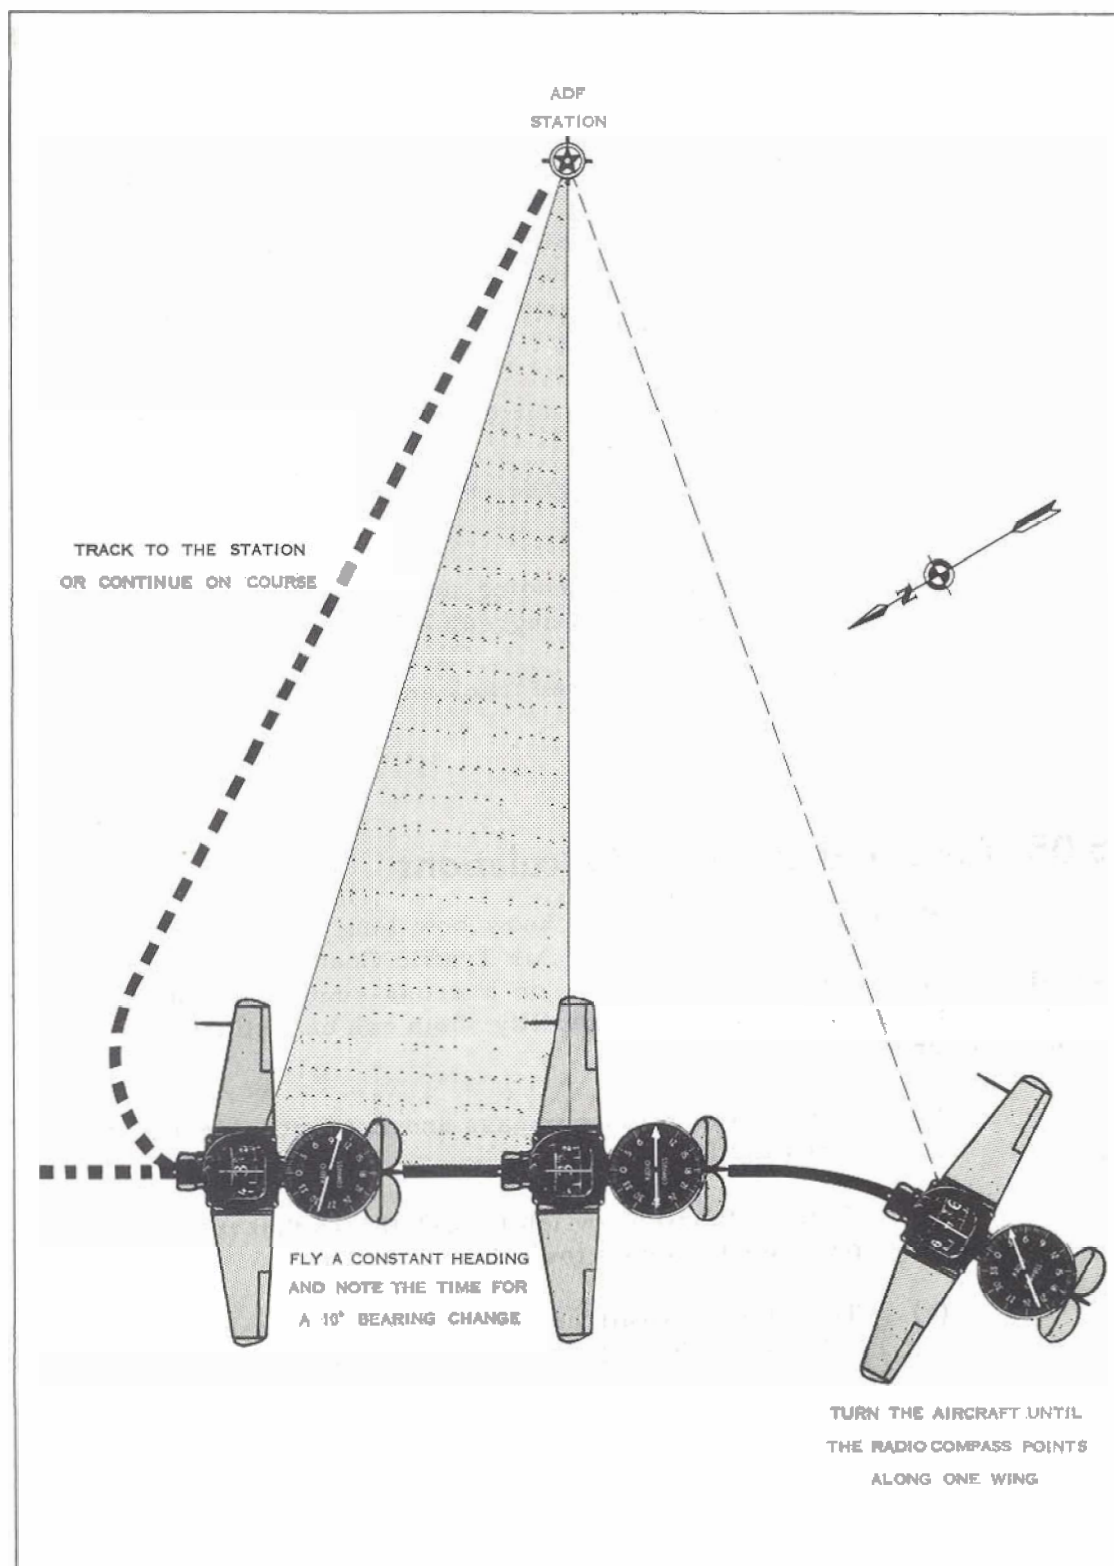

Figure 5: The Time and Distance Procedure
(1) Sometimes, you may wish to know how long a homing is going to take, so that you can give the tower or Air Traffic Control Centre (ATCC) an estimated time of arrival (ETA), or, on a cross-country flight, you may wish to check your distance from a facility; both can be estimated by using the following procedures.
- (c) Turn the aircraft until the radio-compass needle is at "090" or "270". (Figure 5 overleaf.)